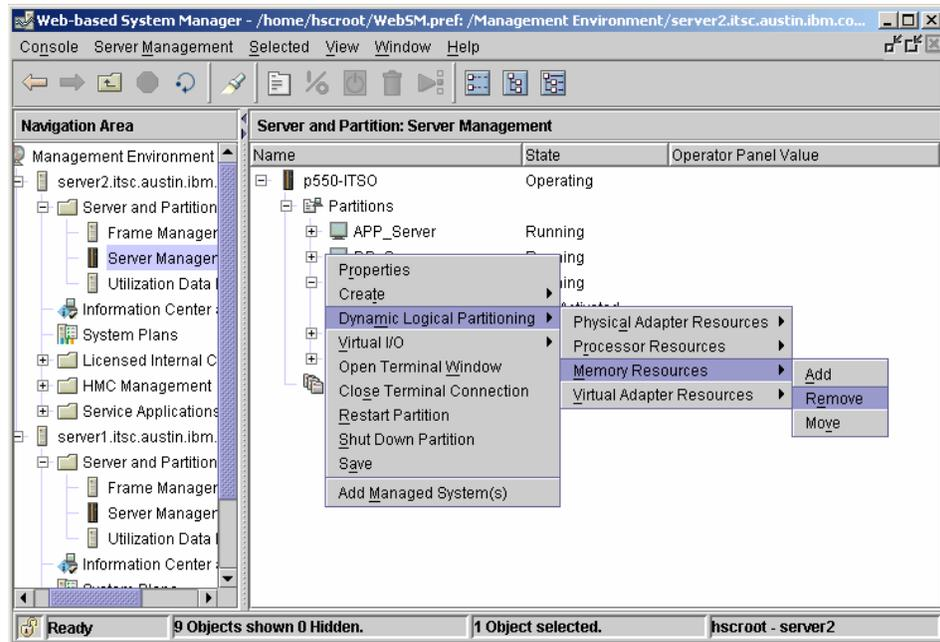

Figure 5-12 Initial dynamic LPAR window
1. Right-click the logical partition where you want to initiate a dynamic LPAR operation. The first window in any dynamic LPAR operation will be similar to Figure 5-12.